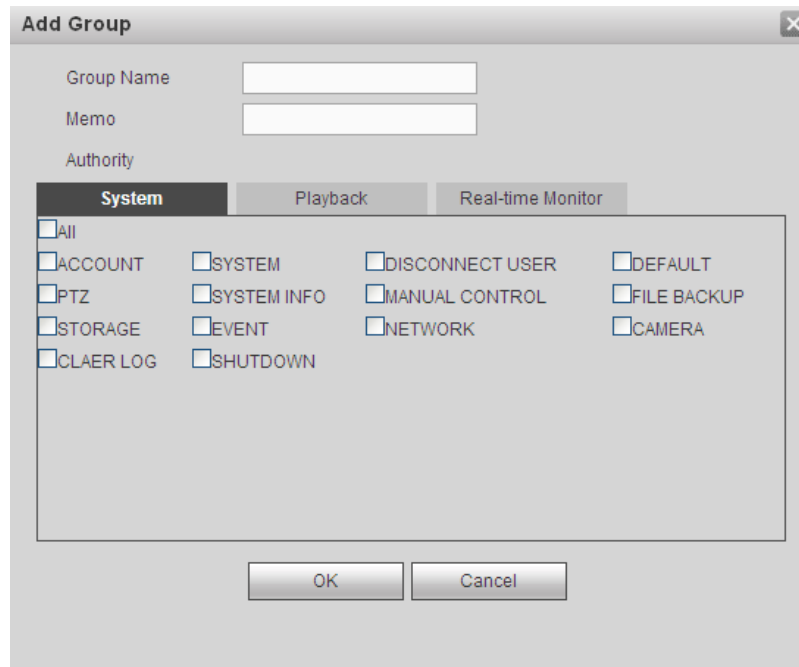

Figure 4-130
**Add group:** It is to add group and set its corresponding rights. See Figure 4-130.